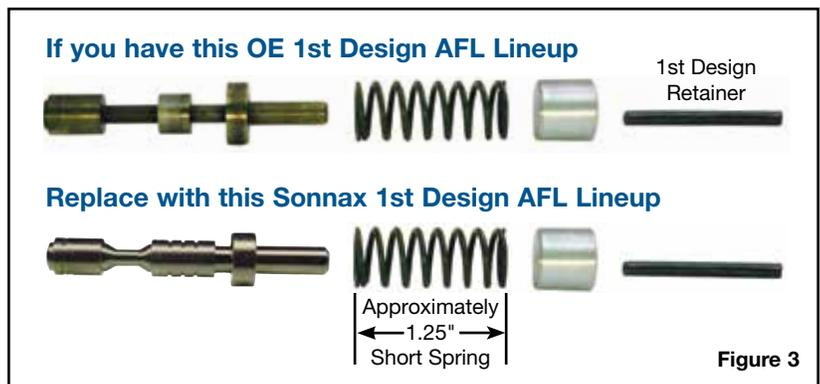

Figure 3
- c1. If 1st OE design AFL lineup was originally installed, use Sonnax short spring (**Figure 3**).
- e. For OE 1st design lineup, reinstall OE spacer and retainer (**Figure 3**, same as c1 above).